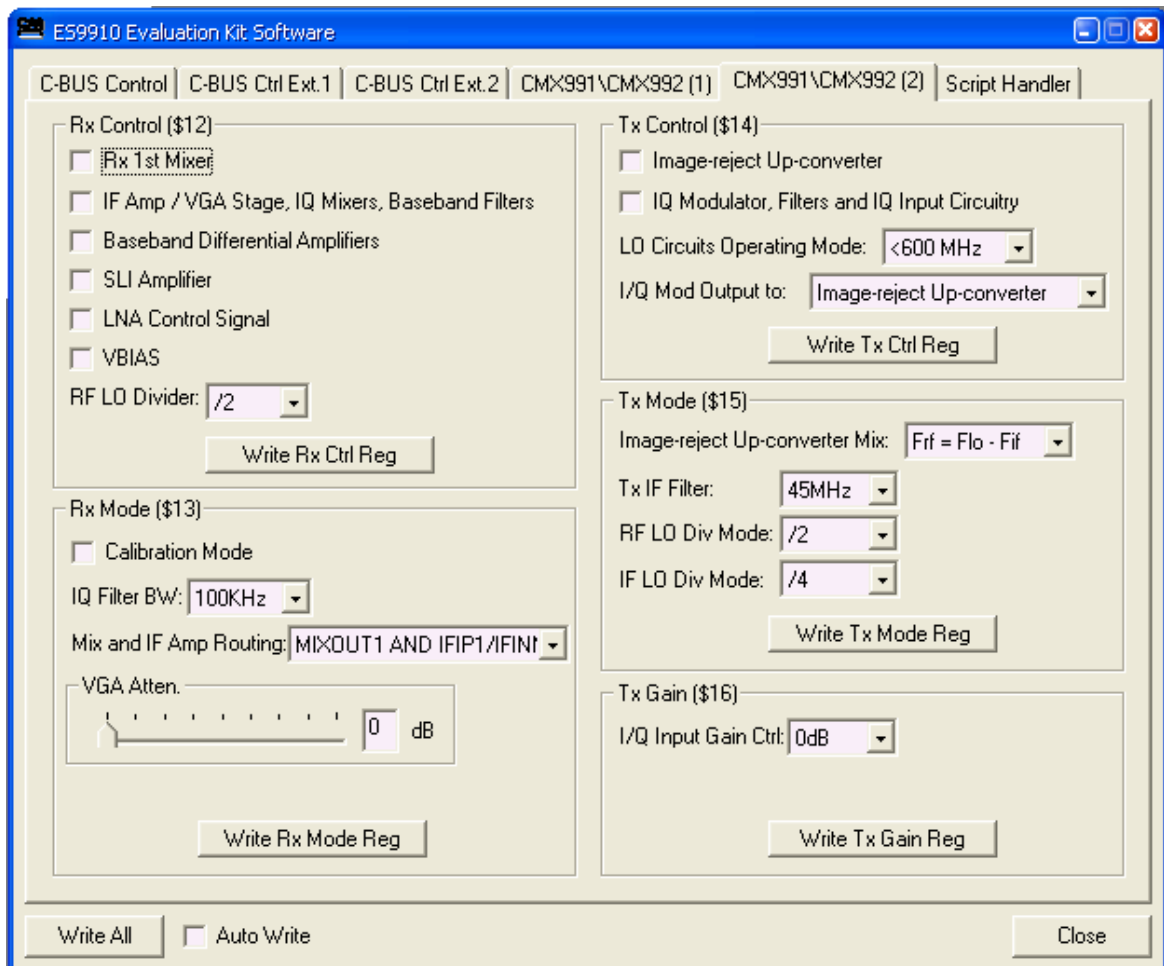

Figure 12 – The 'CMX991\CMX992 (2)' Tab
6.3.3. The 'CMX991\CMX992 (2)' Tab
The 'CMX991\CMX992 (2)' tab provides access (via J5 only) to the Rx Control register (\$12), Rx Mode register (\$13), Tx Control register (\$14, CMX991 only), Tx Mode (\$15, CMX991 only) and Tx Gain Register (\$16, CMX991 only) see Figure 12.